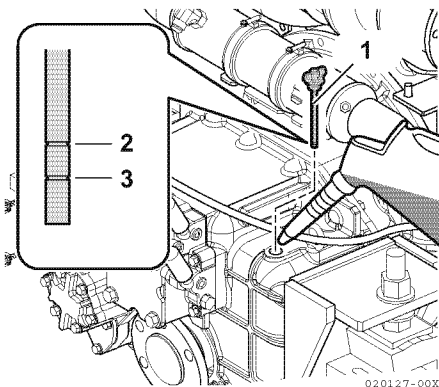

Figure 2
3. Remove the dipstick. The oil level should be between the upper (2, **Figure 2**) and lower (3, **Figure 2**) lines on dipstick.